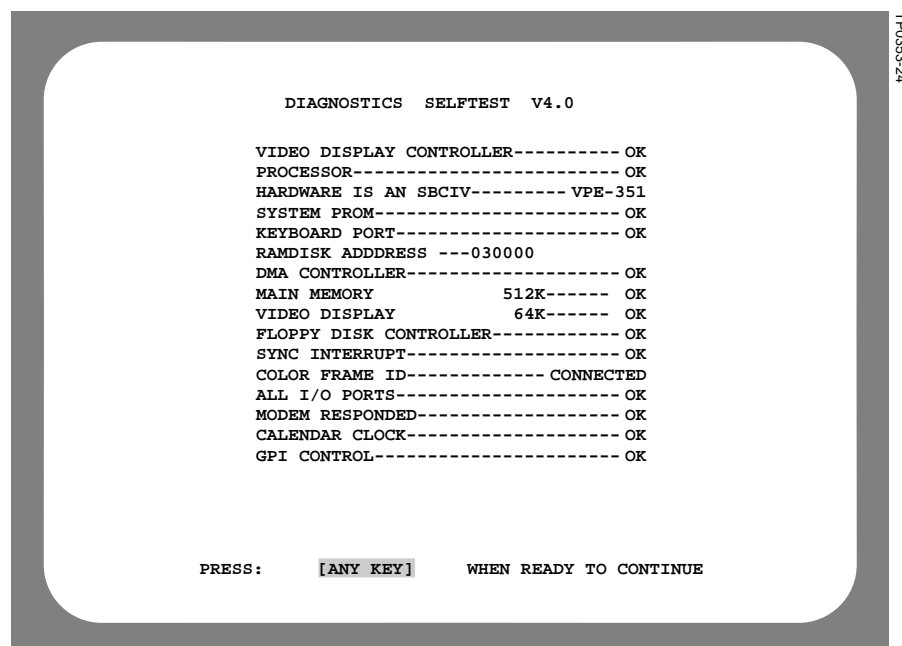

Figure 3-11. PROM-based Self-test Results
2. Use the [←], [→], [↑], and [↓] keys until the **PROM-based self-test** selection is highlighted and press [ENTER]. After a few moments, test results appear. (See Figure 3-11 for an example.)